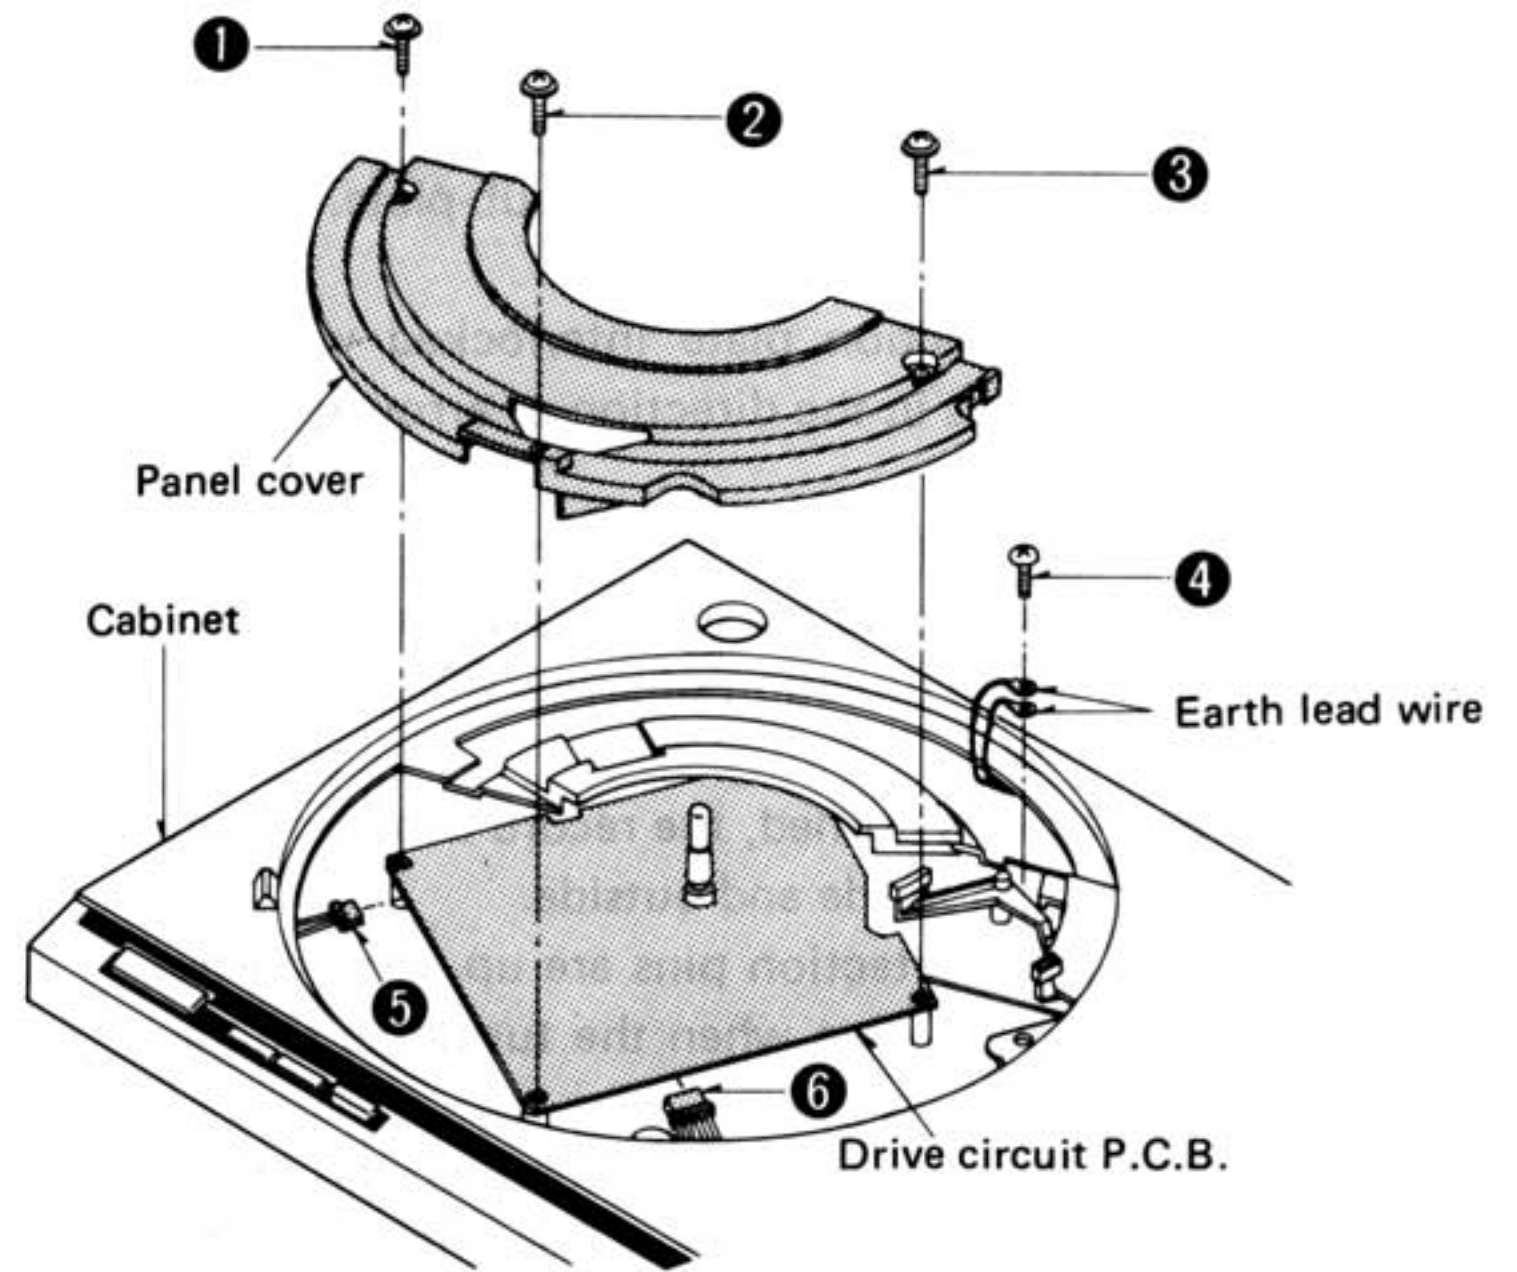

Fig. 1
4. Remove the panel cover setscrews ① ~ ③ and earth lead setscrew ④. (See Fig. 1)
5. Remove the connectors ⑤ and ⑥ of the drive circuit P.C.B. (See Fig. 1)